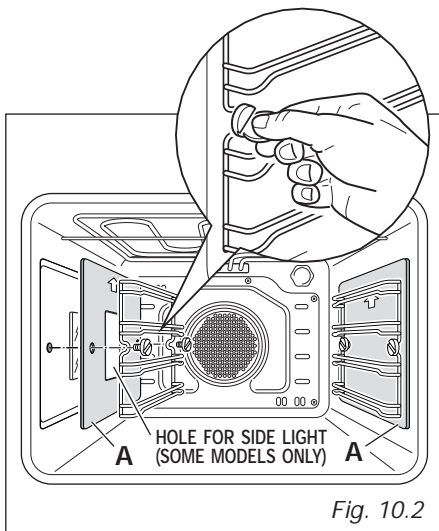

Fig. 10.2
- Assemble the wire racks to the oven walls using the 2 screws (Fig. 10.2). In the models with catalytic panels interpose the catalytic panels "A" with the arrow up (Fig. 10.2).
- Screw the side rack onto the oven wall (Figs. 10.2 - 10.4).